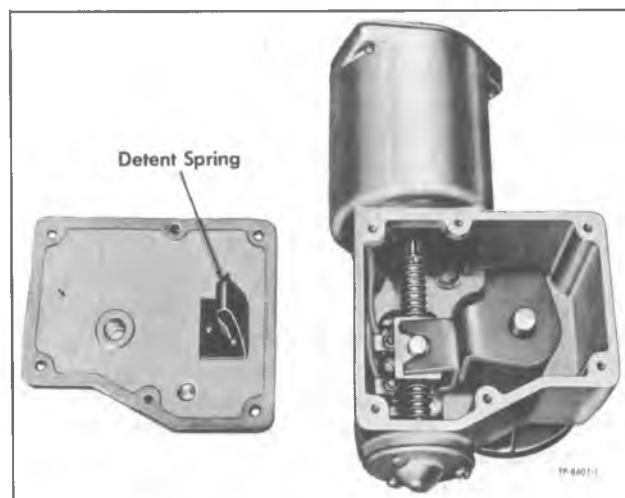

Figure 10—Position of Drive Nut When Disassembling
3. Turn drive screw by hand to run nut to mid-way position on drive screw, similar to figure 10. This is necessary to prevent damage to drive nut contact bumper.